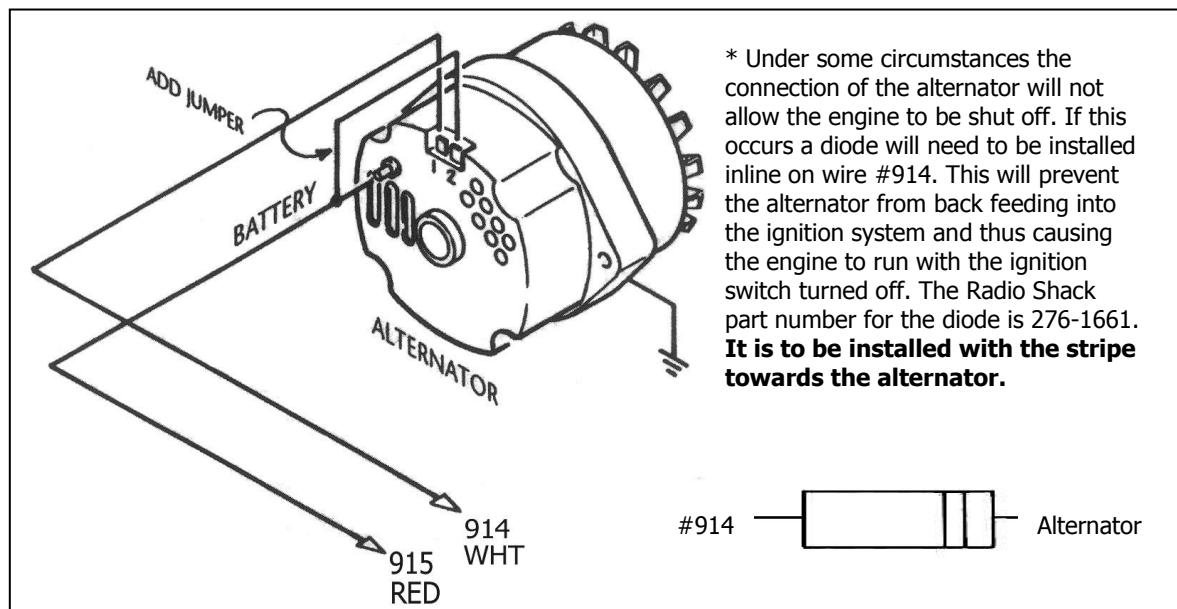

Figure 7-2A Late GM Alternator - Internal Regulator
7.2 GM Alternator (after 1972) - Internal Regulator. See Figure 7-2A.
** If you do not have a One Wire alternator refer to Figure7-2A.